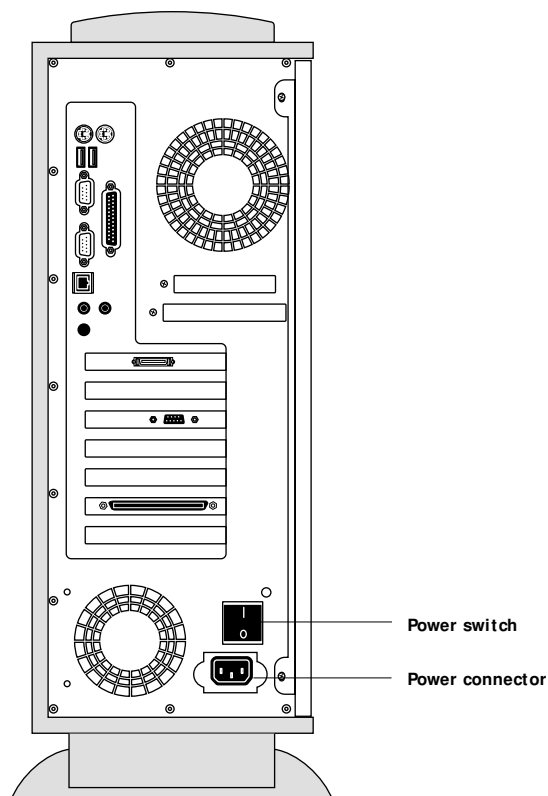

FIGURE 3-1 E-800A power
1. Connect the E-800A power cable to the power connector at the back of the E-800A (see Figure 3-1).